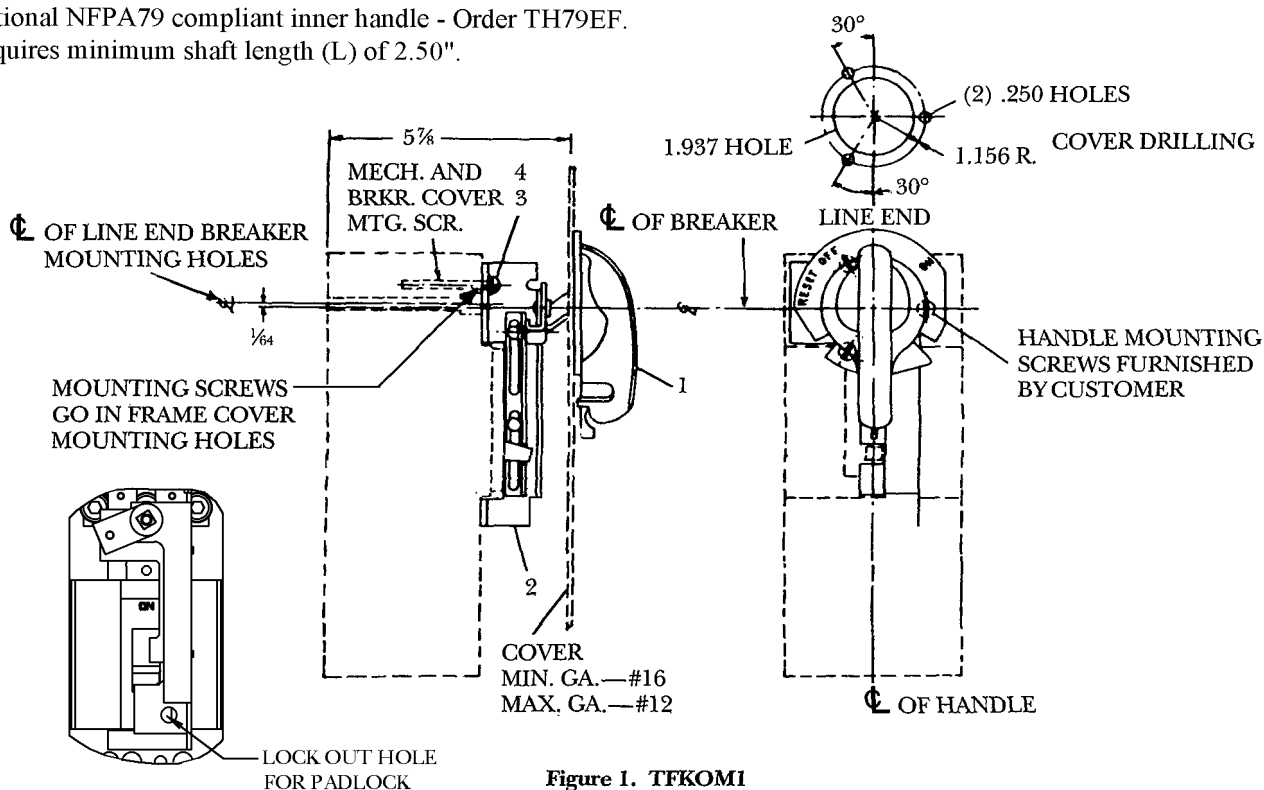

Figure 1. TFKOM1
4. Secure the operating mechanism to the circuit breaker as shown in figure 1 or 2. For type TFJ or TFK breakers use the uncolored #6-32 mounting screws and the small lockwashers. For type TFL breakers use the blue 4mm mounting screws and the large lockwashers.